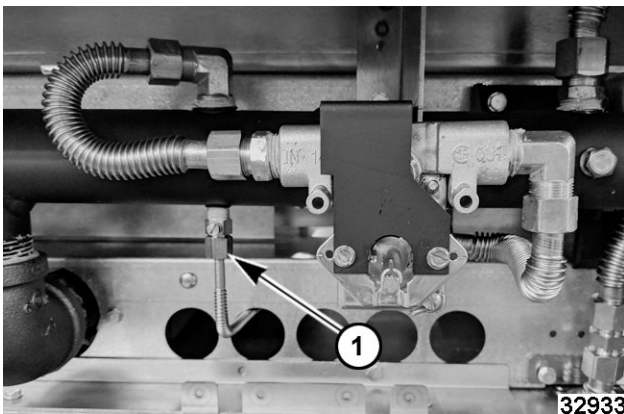

Fig. 104
3. Disconnect pilot flex tube (1, Fig. 104).